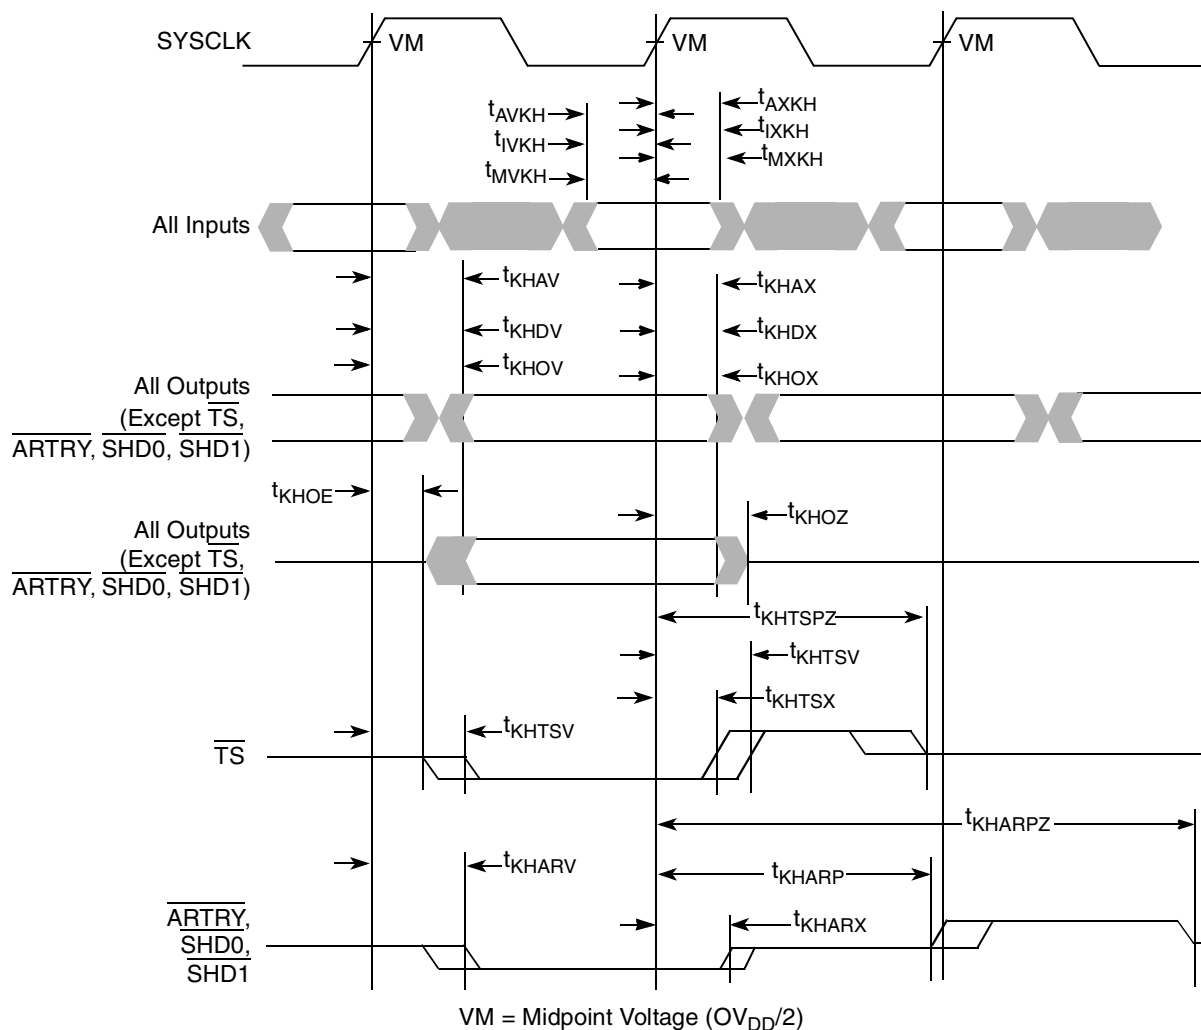

Figure 6. Input/Output Timing Diagram
2. The symbology used for timing specifications herein follows the pattern of $t_{(signal)(state)(reference)(state)}$ for inputs and $t_{(reference)(state)(signal)(state)}$ for outputs. For example, $t_{V_{KH}}$ symbolizes the time input signals (I) reach the valid state (V) relative to the SYSCLK reference (K) going to the high (H) state or input setup time. And $t_{KH_{OV}}$ symbolizes the time from SYSCLK(K) going high (H) until outputs (O) are valid (V) or output valid time. Input hold time can be read as the time that the input signal (I) went invalid (X) with respect to the rising clock edge (KH) (note the position of the reference and its state for inputs) and output hold time can be read as the time from the rising edge (KH) until the output went invalid (OX).
4. According to the bus protocol, \overline{TS} is driven only by the currently active bus master. It is asserted low then precharged high before returning to high impedance as shown in Figure 6. The nominal precharge width for \overline{TS} is $0.5 \times t_{SYSCLK}$, that is, less than the minimum t_{SYSCLK} period, to ensure that another master asserting \overline{TS} on the following clock will not contend with the precharge. Output valid and output hold timing is tested for the signal asserted. Output valid time is tested for precharge. The high-impedance behavior is guaranteed by design.
6. According to the bus protocol, ARTRY can be driven by multiple bus masters through the clock period immediately following AACK. Bus contention is not an issue because any master asserting ARTRY will be driving it low. Any master asserting it low in the first clock following AACK will then go to high impedance for one clock before precharging it high during the second cycle after the assertion of AACK. The nominal precharge width for ARTRY is $1.0 t_{SYSCLK}$; that is, it should be high impedance as shown in Figure 6 before the first opportunity for another master to assert ARTRY. Output valid and output hold timing is tested for the signal asserted. The high-impedance behavior is guaranteed by design.
Figure 6 provides the input/output timing diagram for the MPC7455.